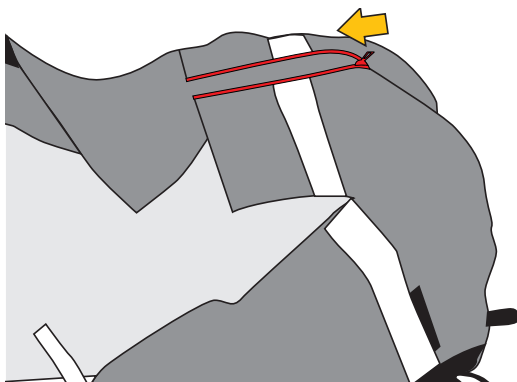

Fig.28
- close the zipper of the rescue bag starting from the feet of the patient (fig. 28),